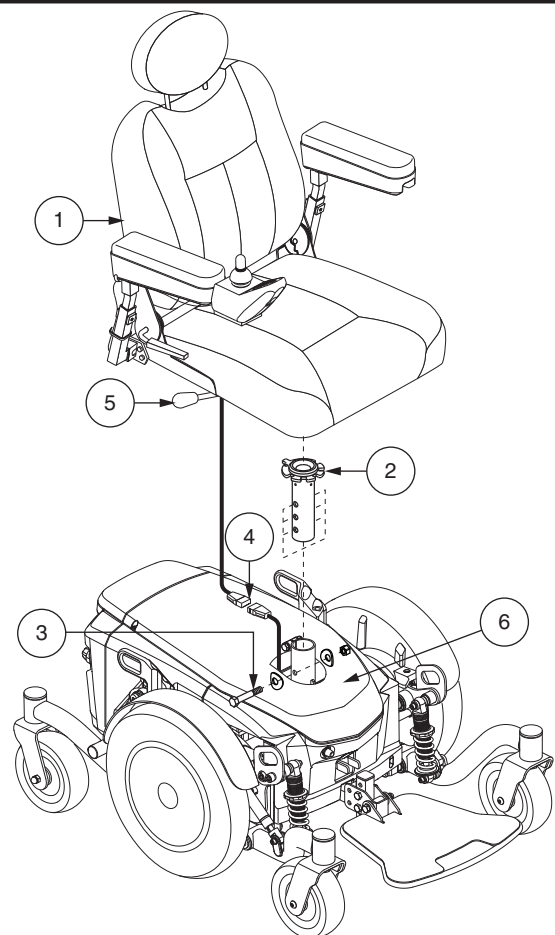

Figure 8. Seat Height Adjustment
3. Disconnect the controller connector from the power base. See figure 8.
4. Disengage the seat release lever. See figure 8.
7. Loosen the hardware at the rear of the seat post. See figure 8.
8. Remove the seat height adjustment bolt, washers, and nut from the seat post. See figure 8.
NOTE: The most common configuration of the seat adjustment hardware is shown in figure 8. Your product may be equipped with a different configuration. All configurations operate in a similar manner.